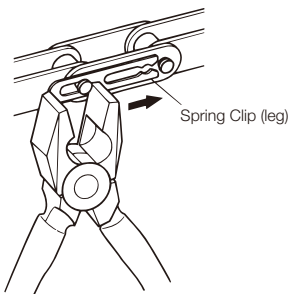

Fig.19 Use a Pair of Pliers to Secure Spring Clip
- 2) Pay careful attention to ensure that the fingers of the spring clip are not spread too wide. If the spring clip does not fit securely, it could become detached without warning, leading to an accident (Fig.19 and 20).